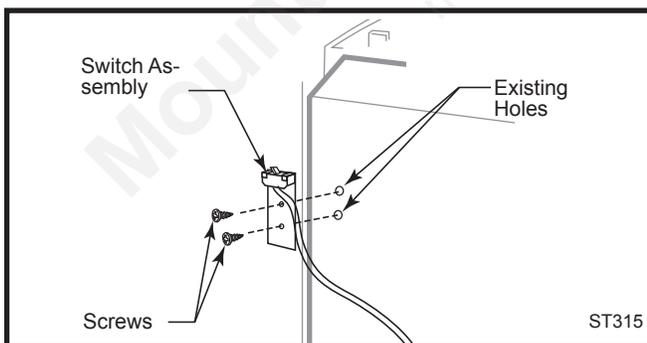

Fig. 17 Attach switch assembly to rear shroud.
1. Attach switch assembly to left rear side of stove shroud (when facing shroud) using two screws and existing holes in shroud. (Fig. 17)